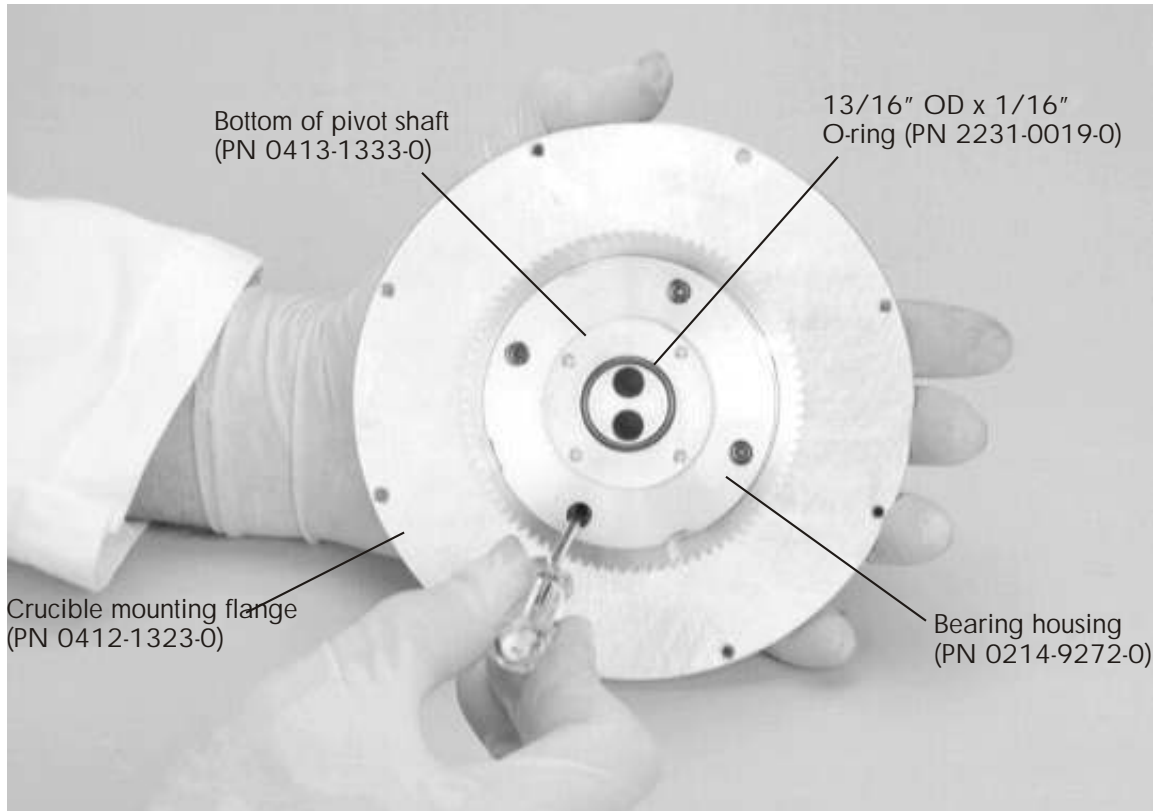

Figure 5-14. Removing the screws that secure the bearing housing assembly to the crucible mounting flange
- Step 26. Remove the four 6-32 × 5/8-in. screws that secure the bearing housing to the crucible mounting flange. To do so hold the bearing housing-mounting flange assembly in one hand, with the top of the mounting flange facing down. Then insert the Allen driver into the recesses in the bearing housing that hold the four screws and remove them, as shown in Figure 5-14.